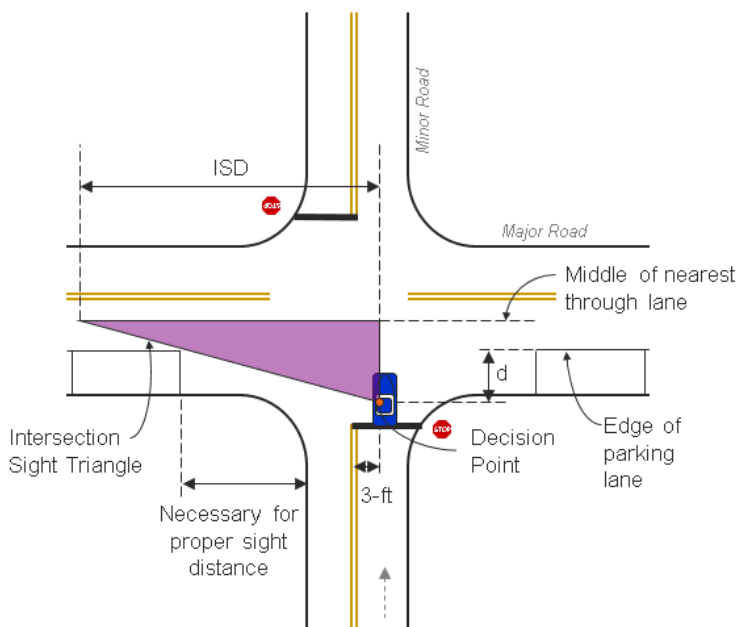

Figure 4. Right and left turners looking left
C. Stop control with on-street parking: The sight triangle for a stop controlled intersection with on-street parking on the major road shall be based on Figures 4 and 5, and Table 3.